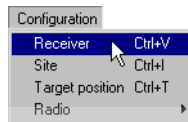

Figure 3-3. Configuration->Receiver
3. Click on **Configuration->Receiver** (Figure 3-3).